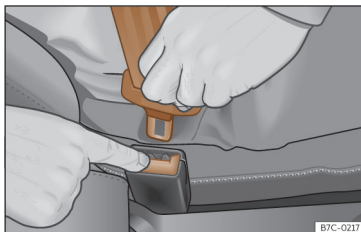

Fig. 23 Release the seat belt's latch plate.
- Press the red button on the buckle >>> **Fig. 23.** The latch plate is released from the buckle.